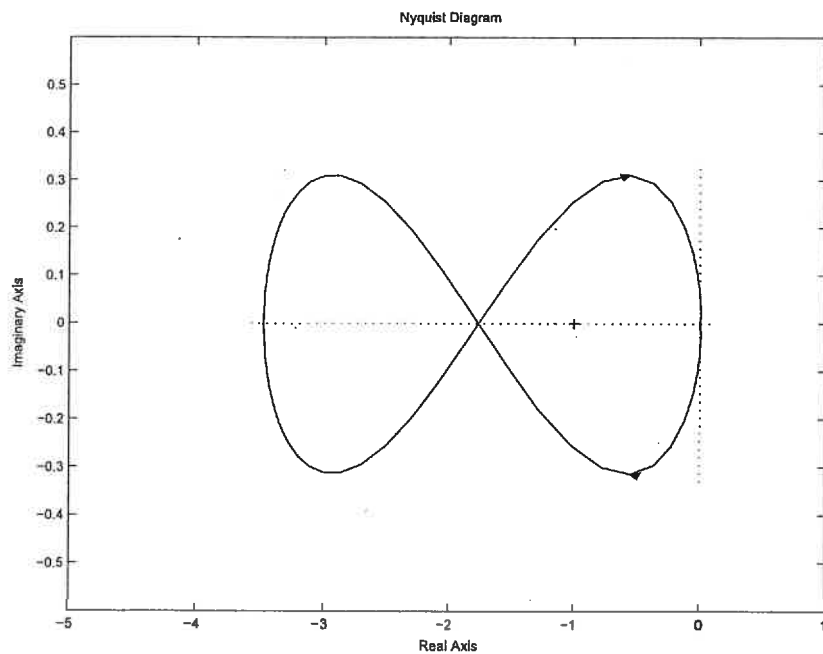

Figure Q7.1
A certain open loop control system has **three poles** on the left-hand side of the s-plane (i.e. in LHP), and **one pole** on the right-hand side (i.e. in RHP). The corresponding Nyquist diagram was generated using a clockwise (CW) Γ path in the s-plane, and is shown in Figure Q7.1 below.